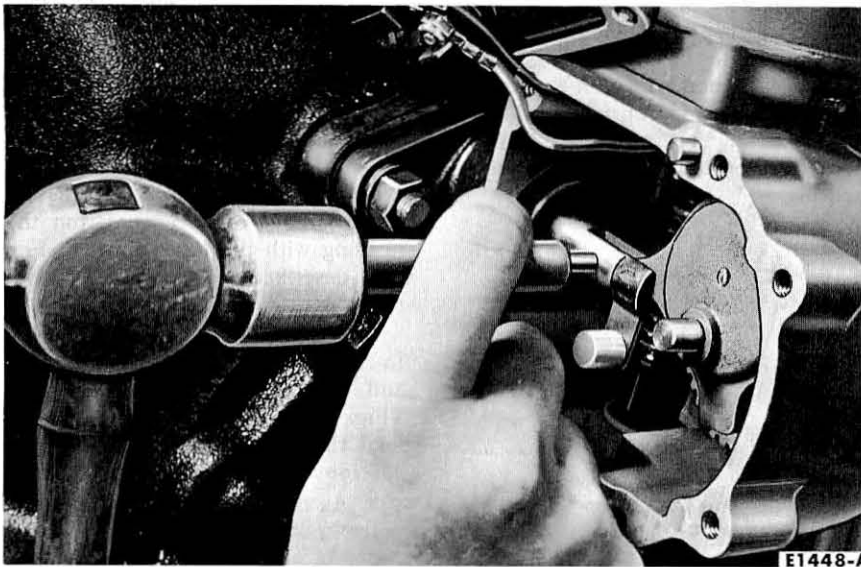

FIG. 7—Roll Pin Installation
4. Align the hole in the connecting rod with the hole in the shift shaft, and drive the roll pin into place with a suitable driver as shown in Fig. 7. The driver shown has a hole in one end, $\frac{3}{16}$ -inch diameter by $\frac{1}{4}$ -inch deep, to hold the pin at the beginning.